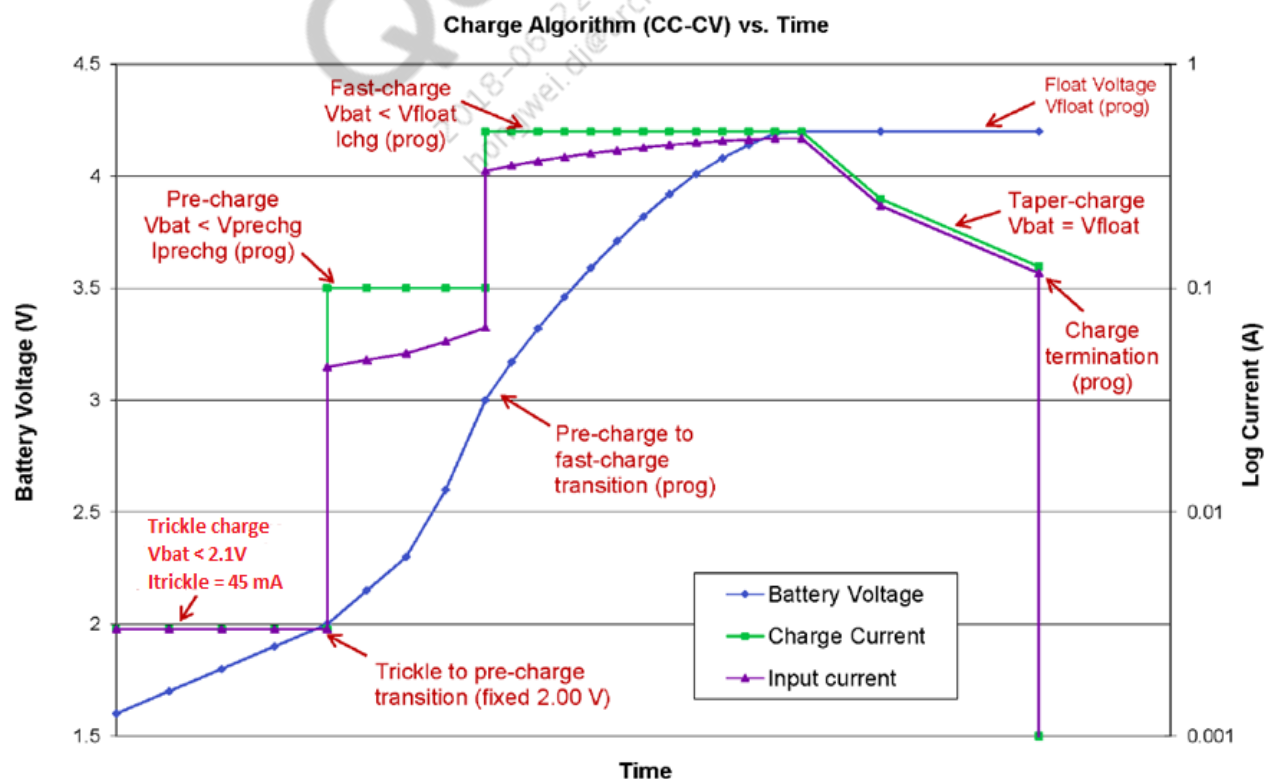

Figure 2-1 Charging algorithm
- Charger cycle plot – The programmable charging algorithm is shown in Figure 2-1.